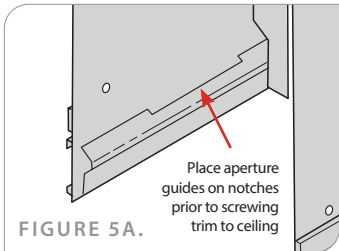

FIGURE 5A.
1. Place aperture guides into the notches in housing (Figure 5A, 5B, 5C).